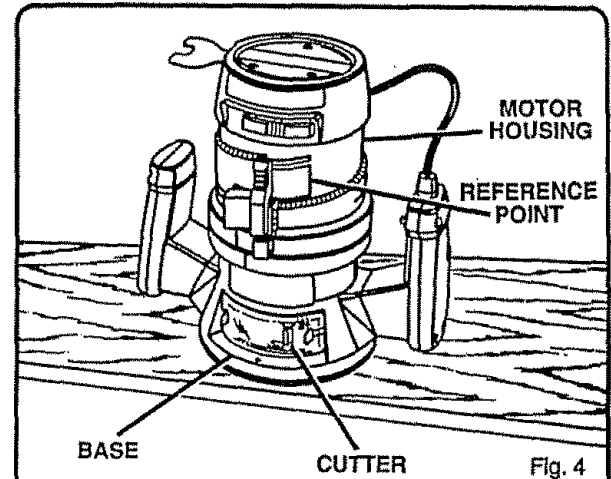

Fig. 4
3. Turn the depth adjusting ring until tip of cutter touches flat surface. See *Figure 4*.